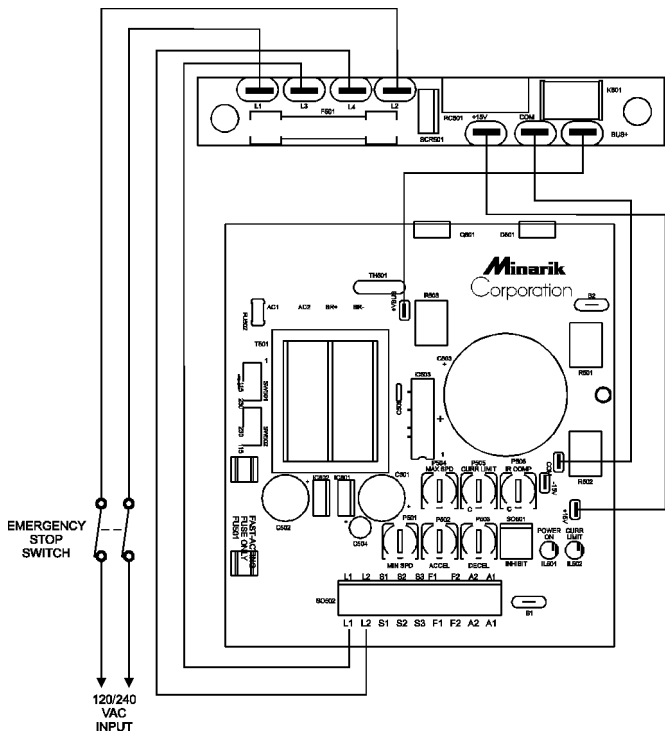

Figure 5. Typical K9-B Connections to XL Series Drive
4. Connect the K9-B to the drive (as shown in Figure 5).
Connect the K9-B to the drive as shown in Table 1. Use 16 AWG wire for power leads and 18 AWG wire for signal leads. See Figure 5 for connections.